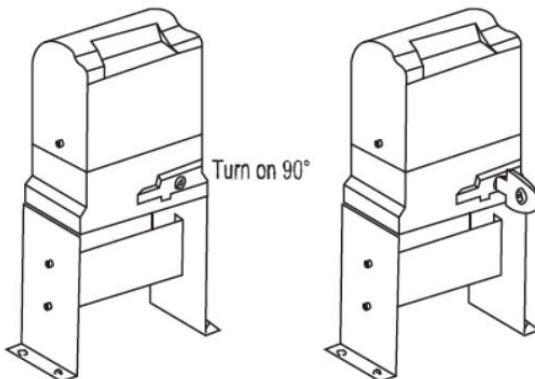

Figure 7
- e) Please unlock the main engine before installation, the unlock method is: take out the key cover, insert the key, and open the manual release bar till it rotates by 90° as shown in Figure 7. Then turn the output sprocket and the sprocket can be rotated easily;